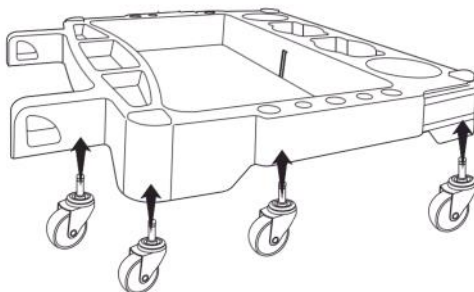

Fig. 2
2. Insert the four casters (3) into the bushes and ensure they are securely installed (Fig. 2).